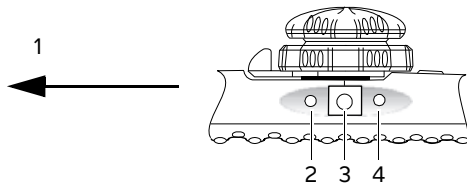

Figure 2-7 Scanplane rotation controls
The scanplane rotation is driven by a motor in the transducer handle and is controlled by buttons on the handle (see Figure 2-7).
- ❖ Press the biplane button (the center button) on the transducer handle. See Figure 2-7.
- 3 Press the scanplane control buttons on the handle to rotate the scanplane counterclockwise (0° to 180°) and clockwise (180° to 0°). See Figure 2-7.